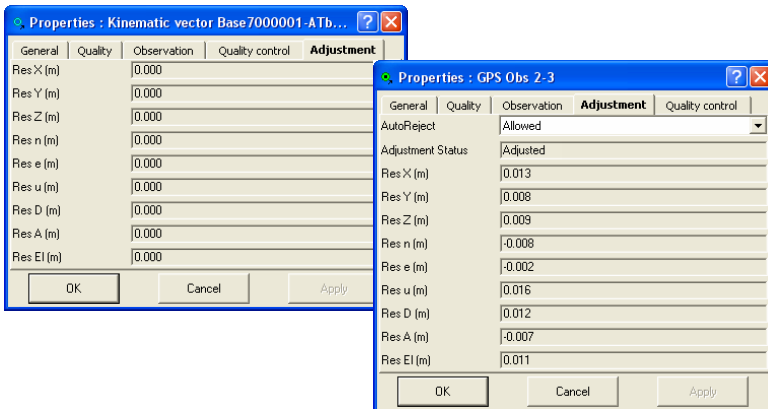

Figure 5-109. Adjustment Properties
- View or edit *Adjustment* tab fields, which differ depending on the type of observation selected: for static observations, set the *AutoReject* option and view the status and residuals for the observation; for kinematic observations, only residuals information displays. Select the *AutoReject* parameter as needed (Figure 5-109).